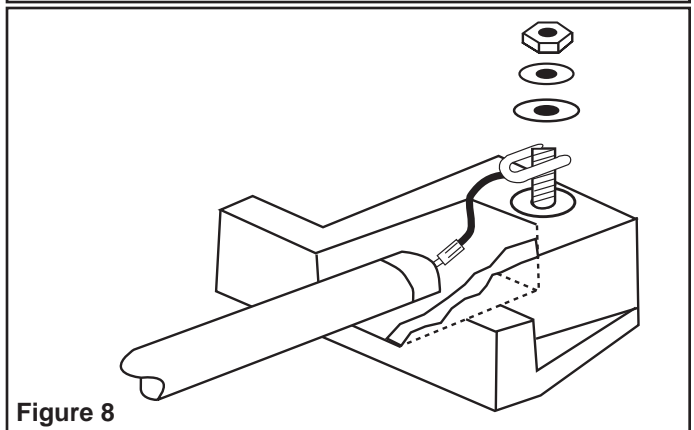

Figure 8
1. Remove terminal cover at each of fixture to gain access to terminal blocks. Loosen #10 hex nuts and install element as shown in Figure 8.
1. Remove terminal cover at each end of fixture to gain access to terminal blocks. Loosen #10 hex nuts, then attach one end of element as shown in Figure 8. (Note for